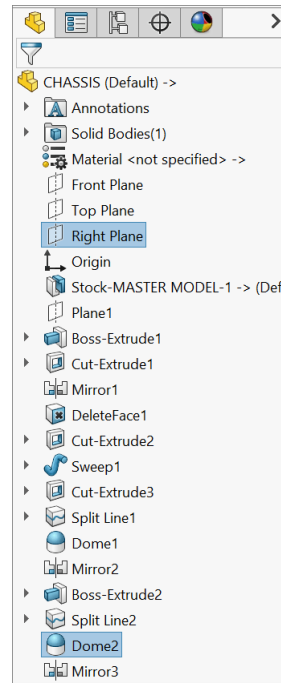

Fig. 73
- Step 1. **Ctrl click Right Plane** and **Dome2** features to select plane and feature, **Fig. 73**.